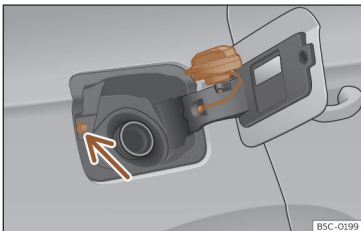

Fig. 191 Fuel tank flap with tank cap attached.
- Place it in the space on the hinge of the open flap >>> **Fig. 191**.
Avoid touching the fuel tank flap lock button >>> **Fig. 191** (arrow). The system will interpret that you have finished and cannot continue refuelling. Press the  button on the driver's door again to continue.